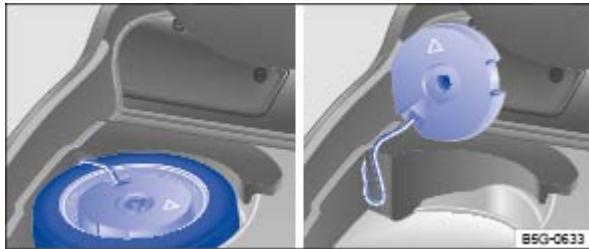

Fig. 154 Under the luggage compartment floor: Subwoofer (if equipped)
- Lean the subwoofer against the side of the luggage compartment. Make sure that the subwoofer does not fall over ⇒ Fig. 154.